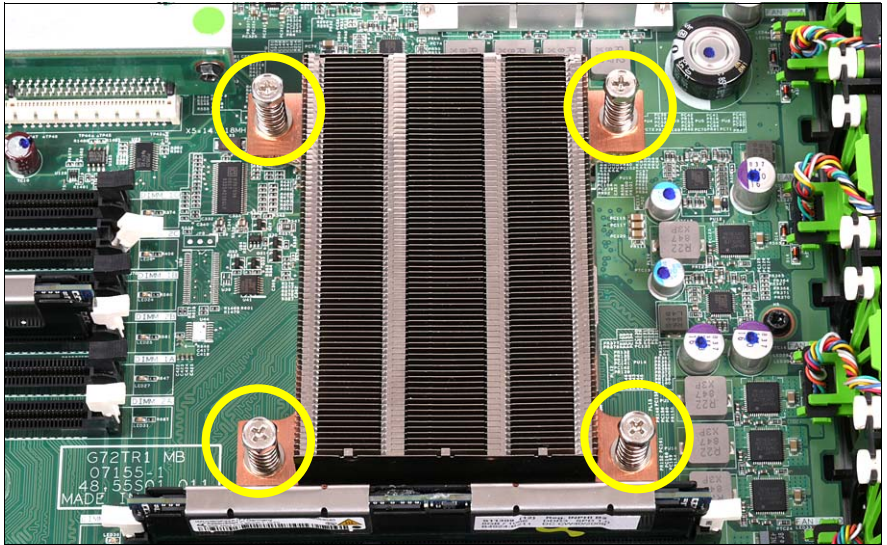

Figure 8: Installing the heat sink
- ▶ Close the cover (2).
- ▶ Lock the processor in place in the socket by returning the socket lever to its original position (3).
- ▶ Place the heat sink on the processor (see figure 8 on page 25).
- ▶ Fasten the heat sink by tightening the four screws in a crossover pattern (see figure 8 on page 25).